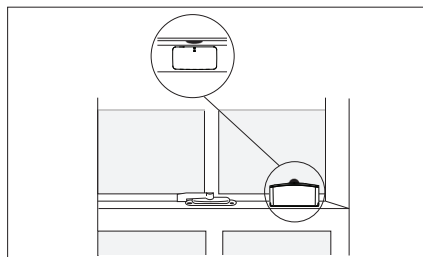

Figure 4.8: Magnet and detector alignment
4. Attach the round section of tape to 1 magnet and place the magnet on the window opposite the detector. Use the alignment mark on the detector to align and center the magnet with the detector. Refer to *Figure 4.8*.